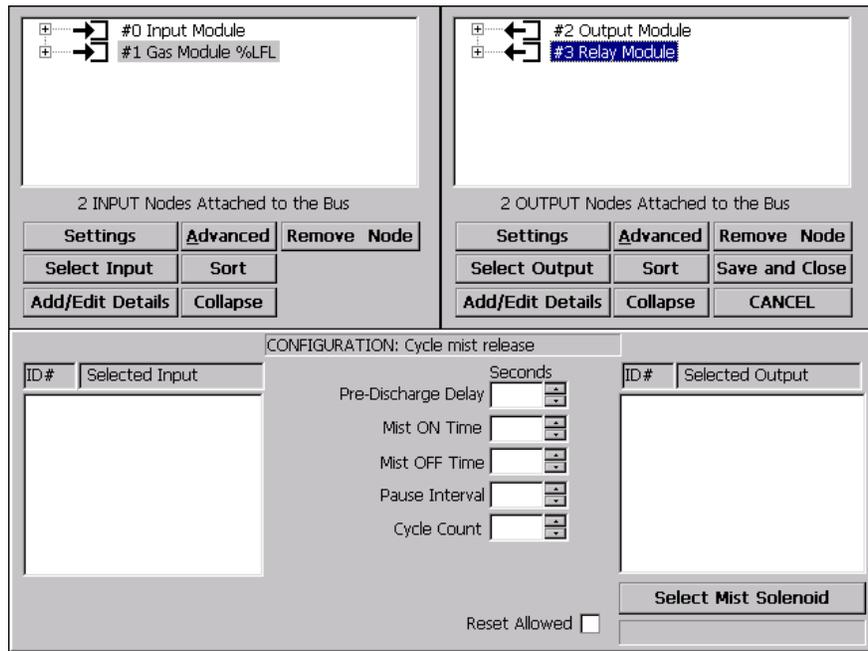
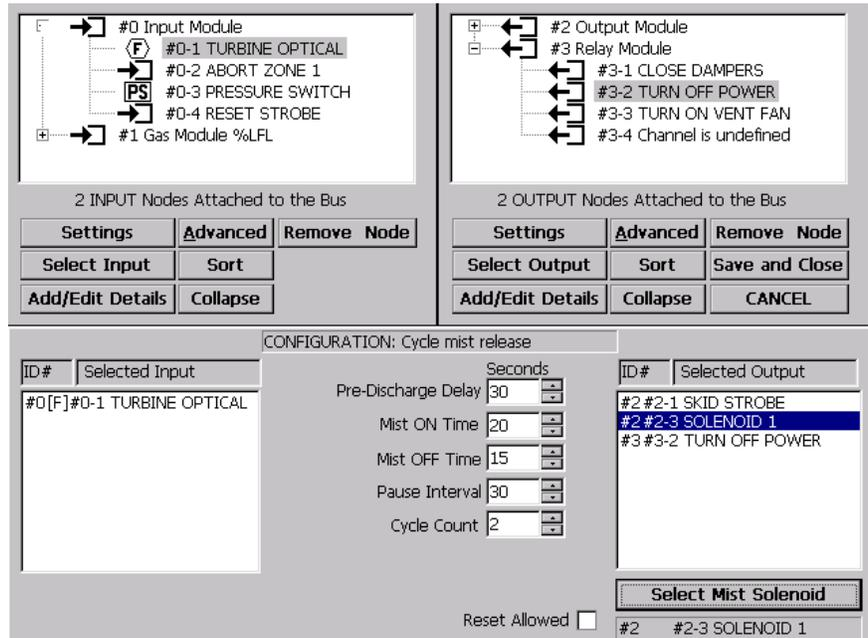

FIGURE 17. Preparing to configure the cycle mist release.
FIGURE 17.1 Selecting node channel inputs and outputs.
Selection #14 of the UTILITY MENU allows the use of mist systems that correspond to NFPA 750. This configuration allows variable time delays for the mist on/off cycling as well as pause modes. Notice in figure 17 the center of the menu designates this is a CYCLE MIST release.
Note that there are time selections in the example of figure 17.1. The maximum amount of CYCLE COUNTS is 999.
Figure 17 displays the cycle mist configuration prior to mapping the nodes or making exceptions. Figure 17.1 displays exception boxes that were filled.
Figure 17.1 shows that a turbine optical for the SELECTED INPUT was selected. If a selection is mistakenly loaded, simply double click on it to undo the operation.
Because other outputs can be located in the same SELECTOR OUTPUT screen, the solenoid must be discretely selected as shown at the bottom of the screen in figure 17.1.
□ Based on the data entered in figure 17.1 the alarm will commit to the delays and reset boxes until all events have completed.